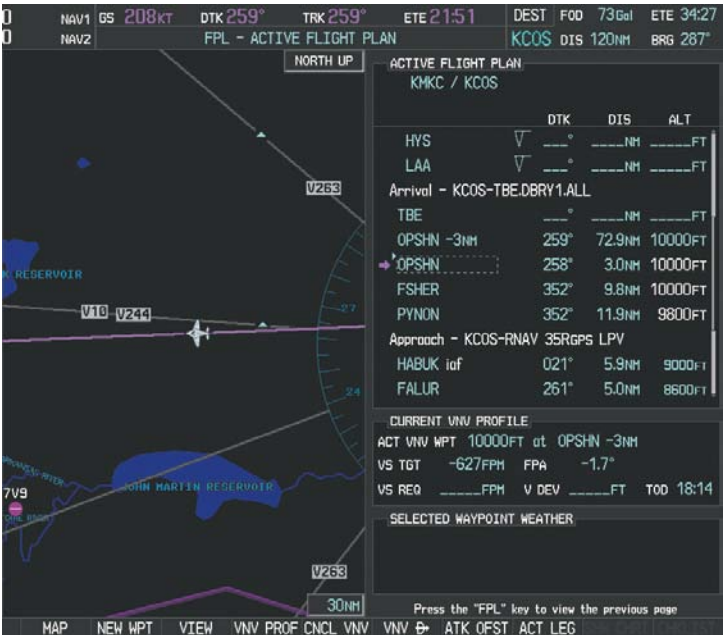

Figure 5-129 Loaded Approach
i) With 'LOAD?' highlighted, again press the **ENT** Key. The selected approach is added to the flight plan as seen in Figure 5-129.